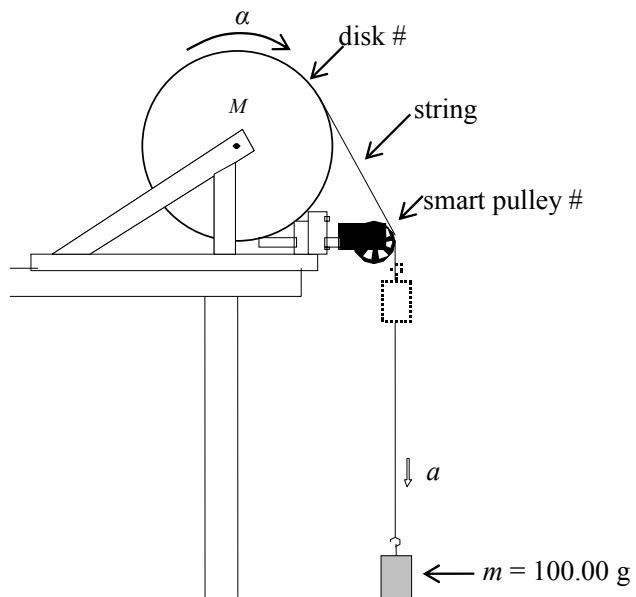

Figure 1
Another method to determine the moment of inertia of the disk is to suspend a mass m from a light string wound around the disk (Figure 1) and measure the acceleration a of the mass. You will show in your pre-lab that the moment of inertia of the disk about the rotational axis can be expressed as:
Apparatus Draw a labelled diagram of the apparatus (see Figure 1). List all other apparatus required, along with any identifying numbers.
2. Set up the apparatus as shown in Figure 1. Make sure that the pulley is stable and well aligned by using the rubber stoppers.